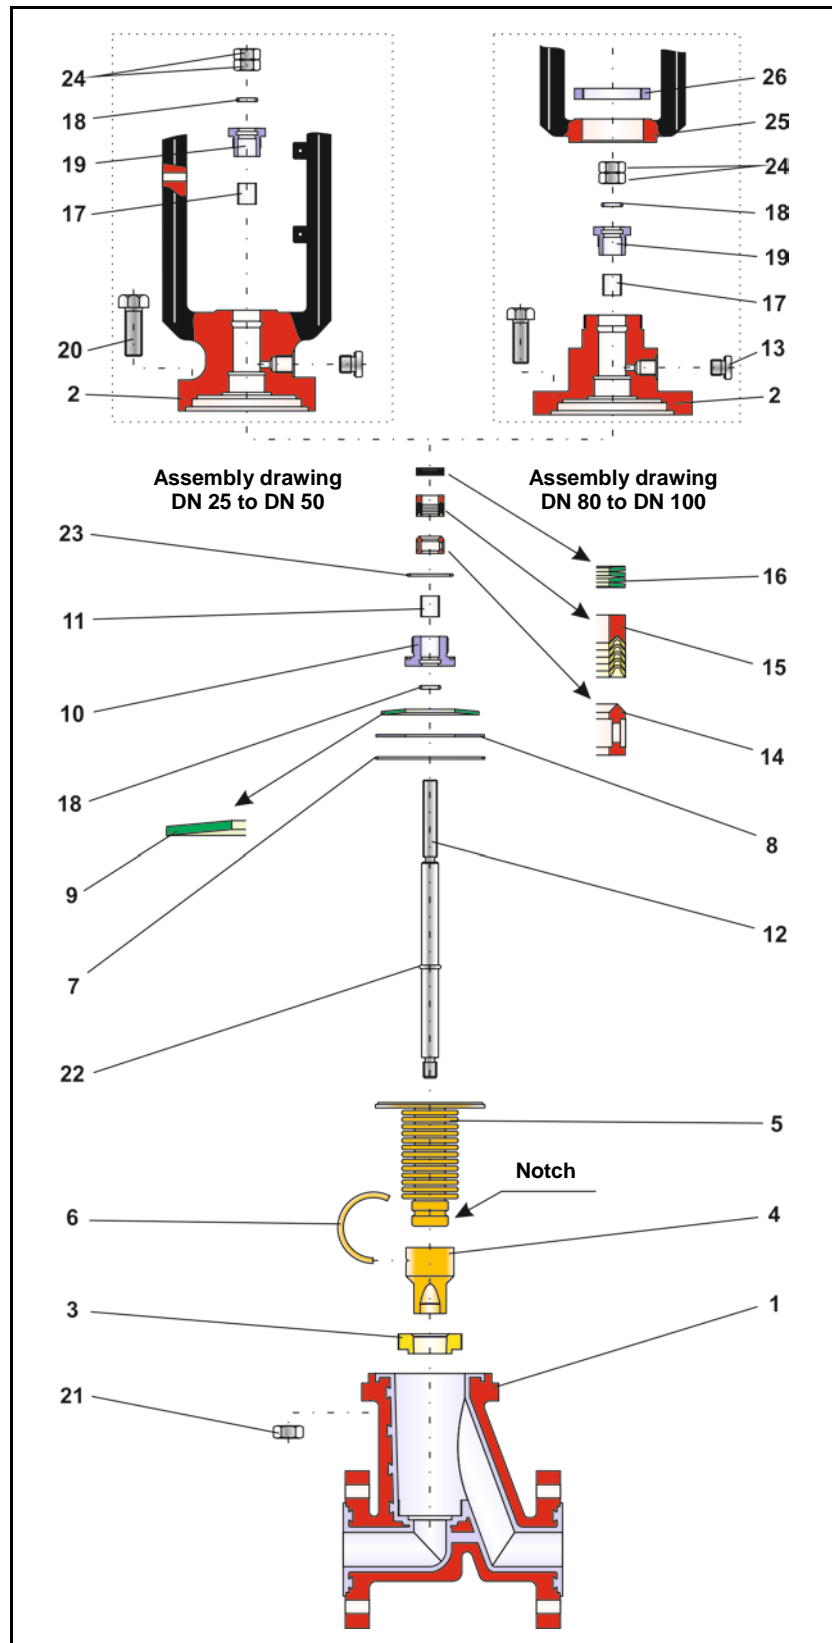

Fig 3 - Explosion drawing of the BR 01b Valve manufactured from 2006
Note: The position and arrangement of individual parts shown in explosion drawing (Fig. 3) must be observed when assembling the valve.
Place the set of spring washers (16) in the intended bore. Refer to the explosion drawing (Fig. 3) for the arrangement.
Insert the final ring, the V-rings of the packing (15) and the distance bushing (14) in the correct order. Refer to the explosion drawing (Fig. 3) for the correct order.